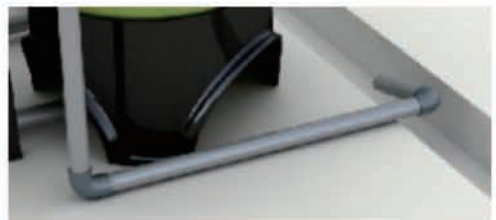

Figure 1-6
⑤ Install drain pipeline
- e. Glue the drain outlet with UPVC (DN40). Put drain outlet pipe to sewer as showed in the Figure 1-6.